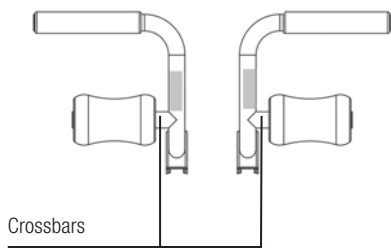

Fig. 1
2. Then attach foam pads on the crossbars as shown in Fig. 1. Let dry before beginning to exercise with the Wing Attachments.
3. Insert the 2 Short Hitch Pins through the holes on the Tri-Grip Shaper Bar Brackets and the holes on the Rails as Shown in Figure 1. Make sure to securely attach each Tri-Grip Shaper Bar to the frame before using.
2. Install the (L) Left AbCrunch Board to the (L) Handle so small end of the board is facing the handle grip. Securely attach the AbCrunch Board to Handle using 4 Flanged Hex Bolts and Hex Wrench provided. See Fig. 1 below.
3. Repeat for (R) Right AbCrunch Board and (R) Handle assembly.